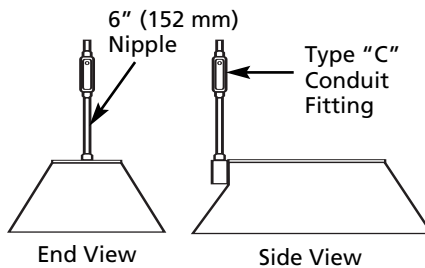

Figure 4
3. Heater can be wired with rigid or flexible conduit. 6" (152 mm) long nipple and type "C" conduit fitting are packed with heater, but not attached. Assemble as shown in Figure 4.